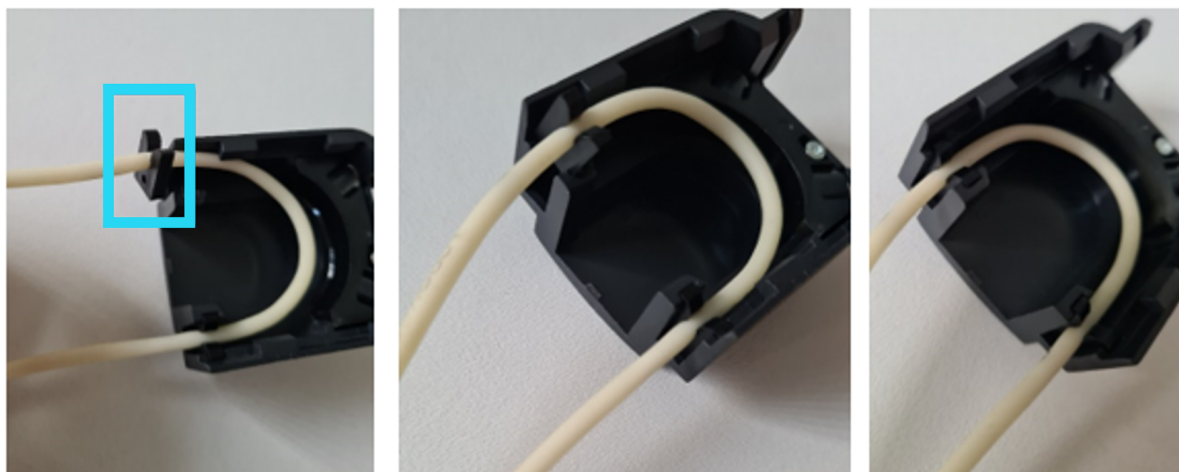

Figure 9: The tubing fits into the pump tube clips which then attach to the pump cover
3. Each pump has 2 tubing clips (highlighted in Figure 9, left). The clips are slotted into place in the pump cover with the opening facing out. The tubing should be pressed into the right-hand clip (Figure 9, middle) and wrapped around the tubing guide (Figure 9, middle) and then the second clip slotted in place (Figure 9, right). These clips are necessary for correct pump functioning. Position the tubing so that it can connect without stretching to the appropriate flasks. Note that as the tubing stiffens with use, you may wish to mark the position of the tube-clamps on the tubing with indelible marker.